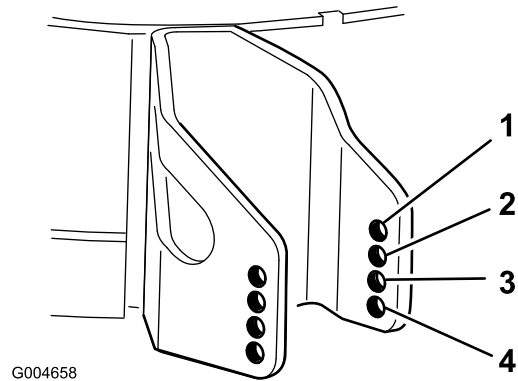

Figure 46
- Select a hole so that the anti-scalp roller is positioned to the nearest corresponding height-of-cut desired (Figure 46).